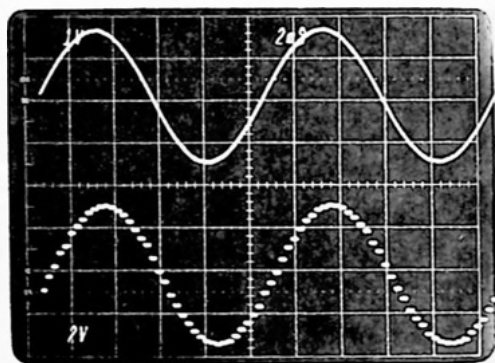

Figure 6-28
Step 15 — Observe the oscilloscope display. You should observe the "echoed," or reproduced, sine wave pictured in the bottom of Fig. 6-28. Notice that you can actually see the points on the waveform that were sampled and output to the DAC. We have pictured the sine-wave input to the ADC at the top of Fig. 6-28 for comparison purposes. You can actually measure how much time is required for the input-to-output echo by measuring the horizontal displacement be-
tween the input and output waveforms shown in Fig. 6-28. We found the conversion time to be approximately 300–400 microseconds. The time delay is a function of the time it takes to execute the assembly language program and the conversion time required by the external ADC and DAC.